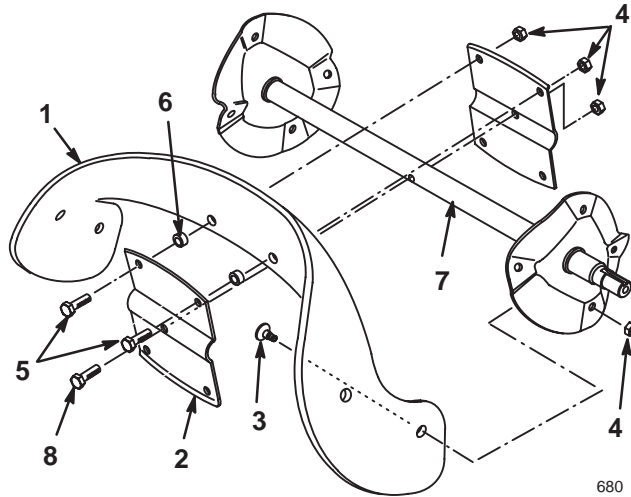

Figure 20
1. Remove the 4 torx screws and the 4 locknuts that secure the outer edges of the rotor blade to the rotor assembly (Fig. 20).
2. Remove the 2 hex-head bolts and 2 locknuts that secure the center of the blade to the rotor halves (Fig. 20).
3. Loosen the long hex-head bolt that secures the rotor halves to the auger shaft assembly (Fig. 20).
4. Slide the rotor blade out from between the rotor halves (Fig. 20).